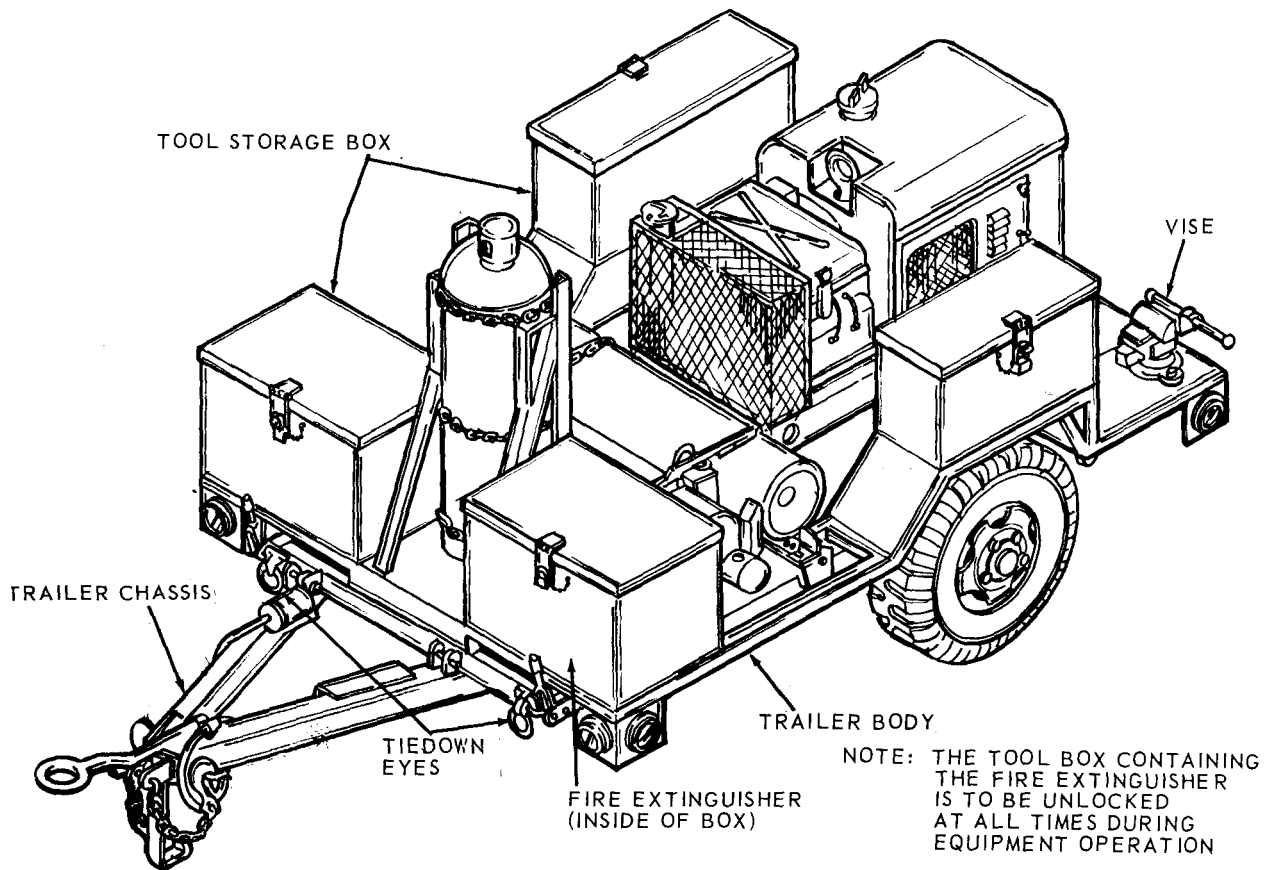

Figure 1-1. Welding shop, trailer mounted, left front.
a. General. The welding shop (fig. 1-1 and 1-2) covered by this manual is basically a 300 amp welding machine mounted on a two-wheel trailer chassis. Included in the shop is an inert gas welding gun and control used in welding either ferrous or non-ferrous metals. Also included are the bottles